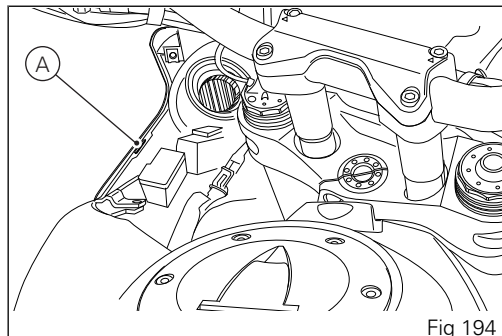

Fig 194
Reconnect the connector (5) and refit the panels (4) that were removed being careful to insert the tabs (B) into the slots A, (Fig 194) made in the headlight fairing.